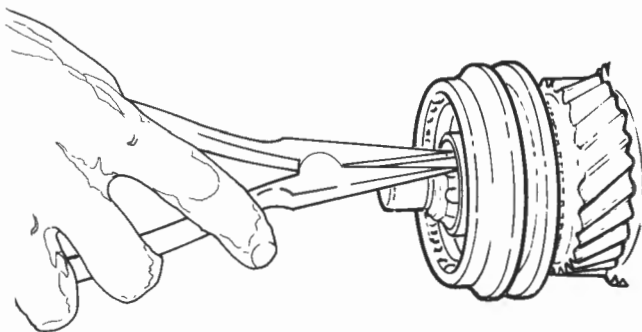

Fig. L-14
- 23 Remove the synchroniser snap ring from the front of the mainshaft and slide off the second and third speed synchroniser assembly and the second gear with its baulk ring. Fig. L-14.